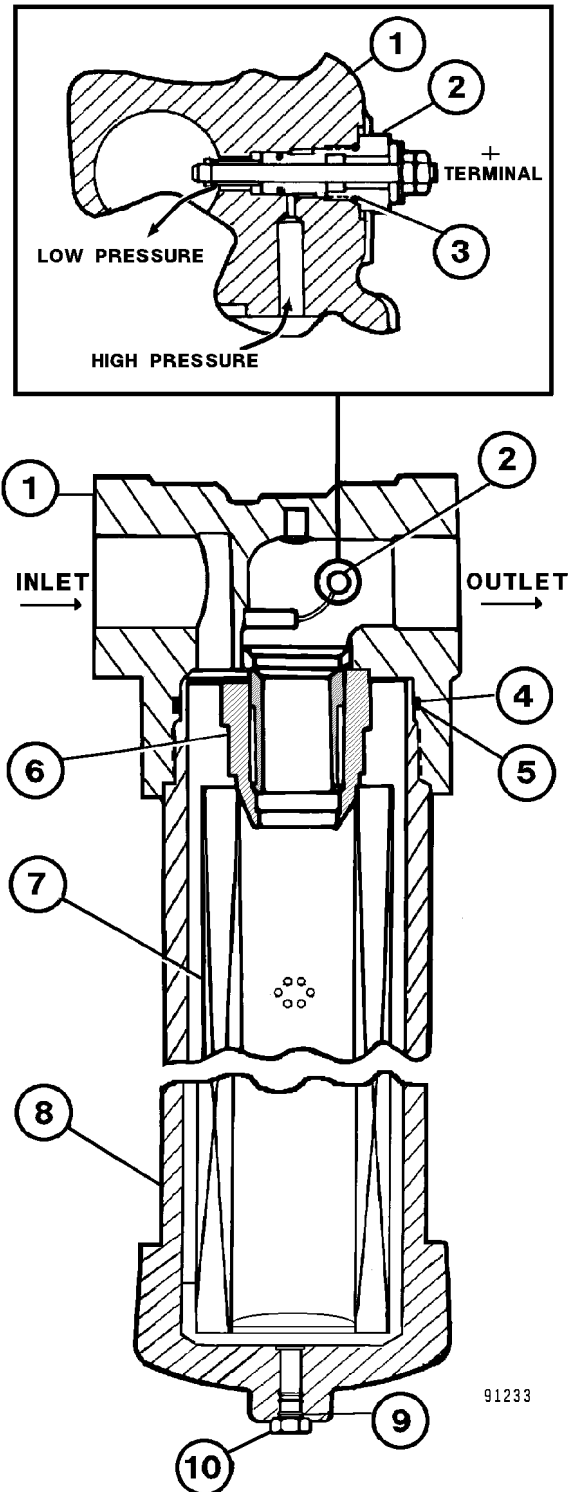

FIGURE 4-3. STEERING CIRCUIT FILTER
2. Remove plug (10, Figure 4-3) and drain oil from the housing into a suitable container.
The indicator switch (2, Figure 4-3) is preset to actuate at 35 psid (241 kPa) and is not repairable or adjustable. If the indicator switch is inoperative, replace the complete switch. Attempting to adjust the switch is not recommended.